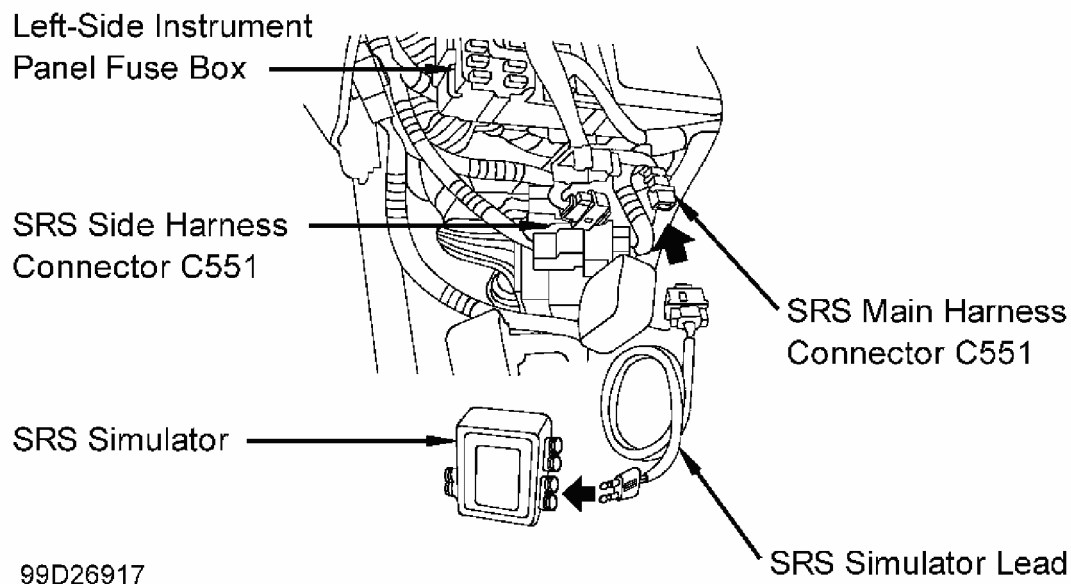

Fig. 44: Connecting SRS Inflator Simulator & Lead To SRS Main Harness Connector C551
3. Turn ignition switch to OFF position. Disable air bag system. Disconnect SRS left side harness 2-pin connector C551. See **Fig. 44** . Connect SRS simulator lead and SRS inflator simulator to SRS main harness side of connector C551. Reconnect negative battery cable. Erase DTC memory. Retrieve DTC. If DTC 21-1 is indicated, go to next step. If DTC 21-1 is not indicated, open or increased resistance exists in SRS left side harness. Replace SRS left side wire harness. See **WIRING DIAGRAMS** .
3. Turn ignition switch to OFF position. Disable air bag system. Disconnect SRS side harness 4-pin connector C551. See **Fig. 44** . Connect SRS simulator lead and SRS inflator simulator to SRS main harness side connector C551. Reconnect negative battery cable. Erase DTC memory. Retrieve DTC. If DTC 21-3 is indicated, go to next step. If DTC 21-3 is not indicated, a short exists in SRS side harness. Replace SRS left side wire harness.
3. Turn ignition switch to OFF position. Disable air bag system. Disconnect SRS side harness 2-pin connector C551. See **Fig. 44** . Connect SRS simulator lead and SRS inflator simulator to SRS main harness connector C551. Reconnect negative battery cable. Erase DTC memory. Retrieve DTC. If DTC 21-8 is indicated, go to next step. If DTC 21-8 is not indicated, go to next step.
3. Turn ignition switch to OFF position. Disable air bag system. Disconnect SRS side harness connector C551. See **Fig. 44** . Connect SRS simulator lead and SRS inflator simulator to SRS main harness side of connector C551. Reconnect negative battery cable. Erase DTC memory. Retrieve DTC. If DTC 21-9 is indicated, go to next step. If DTC 21-9 is not indicated, a short to ground exists in SRS left side harness. Replace SRS left side wire harness.